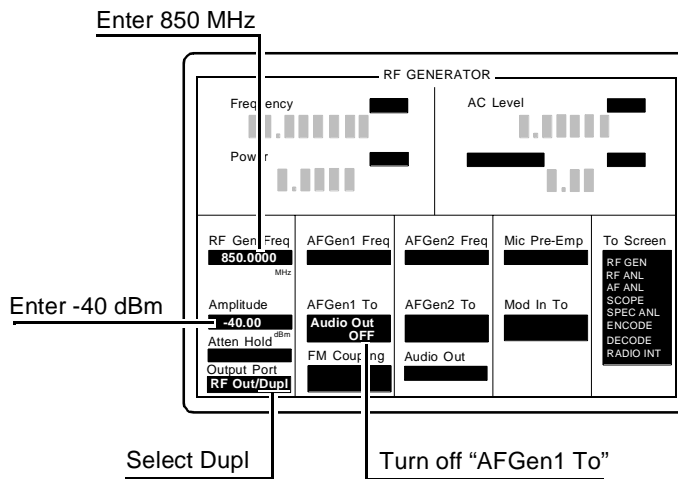

Figure 62
Step 2. Setup the RF GENERATOR screen (see figure 62).